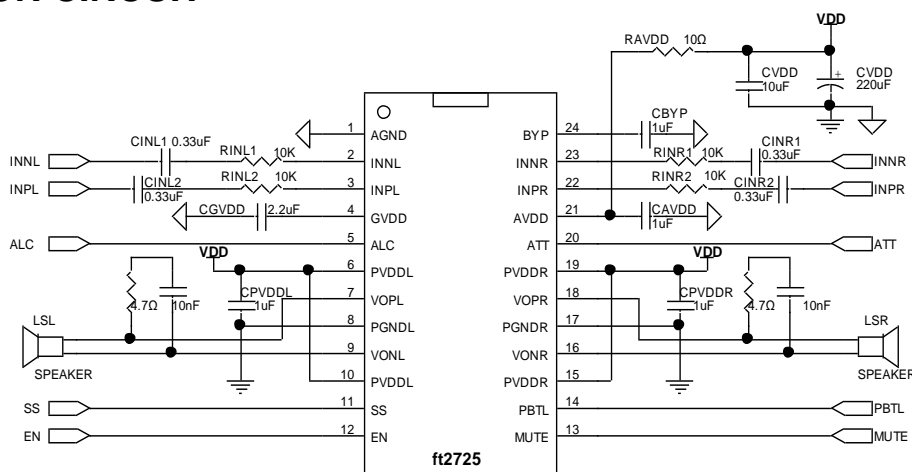

Figure 1: Typical Audio Power Amplifier Application Circuit
4. Added snubber circuits across audio outputs VOPL/R and VONL/R in Figure 1, 33, 34, 35, and 36.
3. Updated Figure 1, Typical Application Circuit, on Page 1.